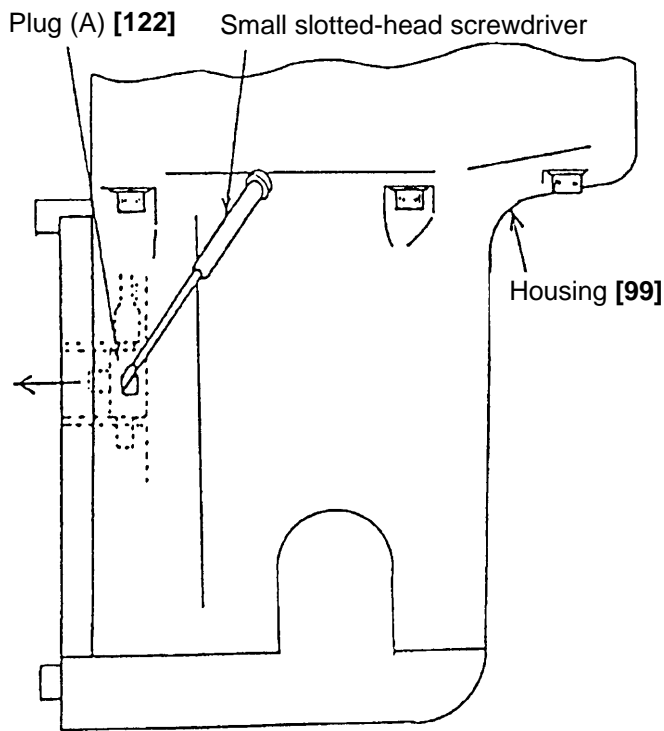

Fig. 19
Then, as indicated in Fig. 19, insert a small slotted-head screwdriver into the square hole of the Housing and pull out the Plug (A) Ass'y [122] in the direction indicated by the arrow while pushing on the projection with the tip of the screwdriver.